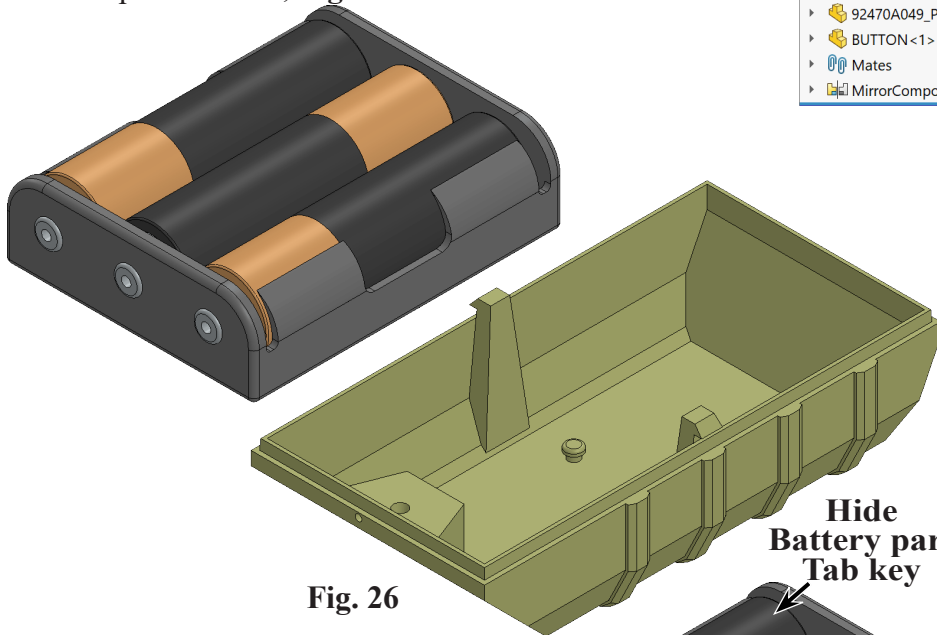

Fig. 26
Step 3. Select your **Battery Holder Assembly** file and place the file, Fig. 26.